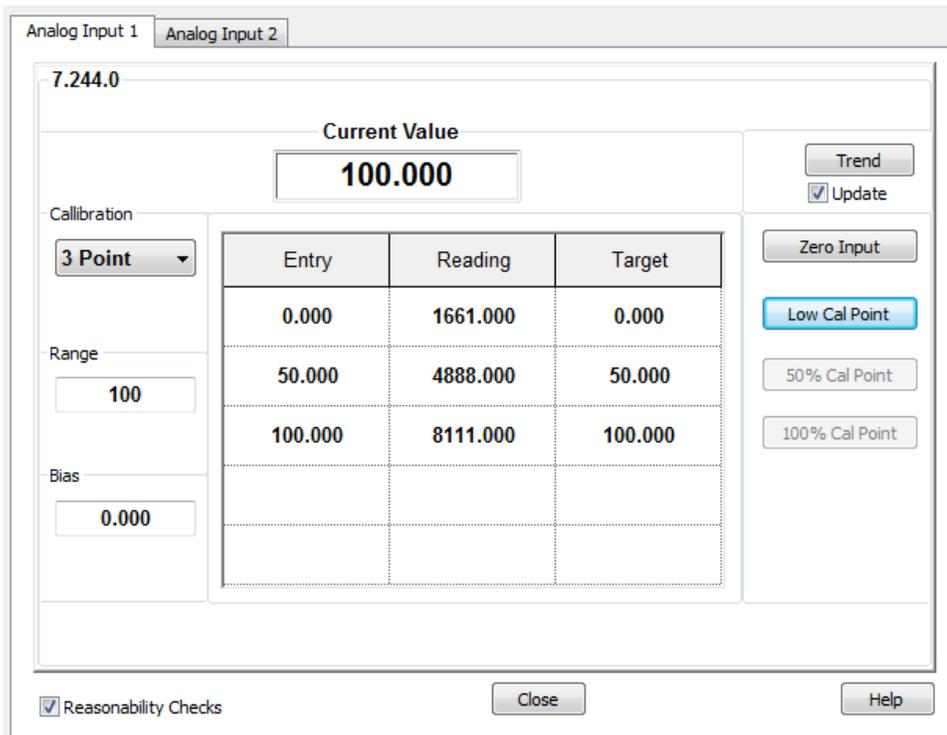

Figure 106: High range value verification
6. Verify that the **Current Value** field displays a value equal or close to the target range high (100%) value (Figure 106).